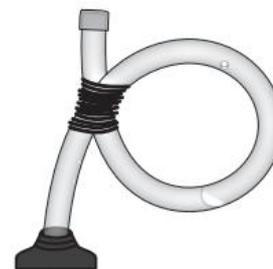

FIGURE 11.9 A simple airlock can be made from a plastic hose partially filled with water.
- 3 Stopper the conical flask and attach a simple airlock created by making a circle of a length of plastic tube and filling with water, as seen in Figure 11.9.